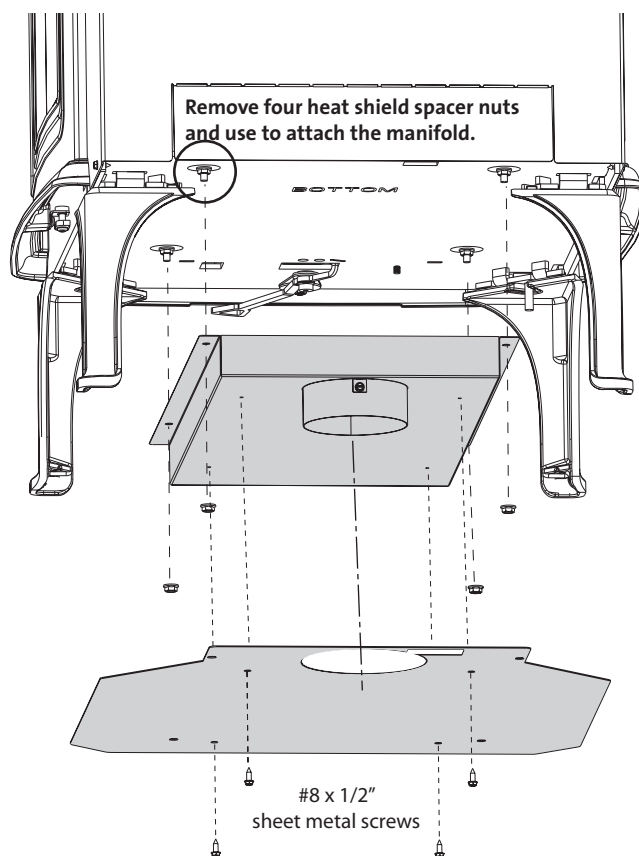

Figure 1. Outside Air Manifold installation.
1. Use the 10 mm socket driver or wrench to remove the four nuts and the bottom heat shield from the studs in the stove bottom as shown in fig. 1. Also remove the four remaining spacer nuts from the studs.